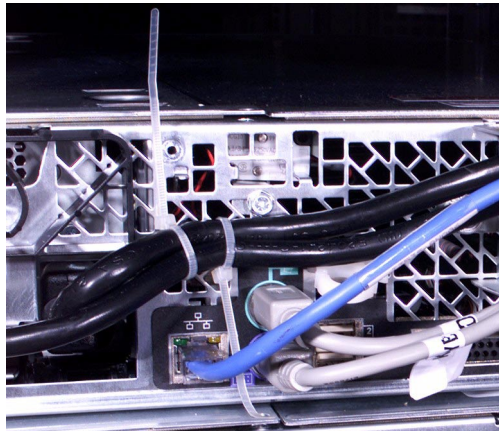

Figure 4. Securing the Power Cables to the Chassis
2. Secure both power cables to the chassis by threading a cable tie through the grate on the back on the chassis (see Figure 4).